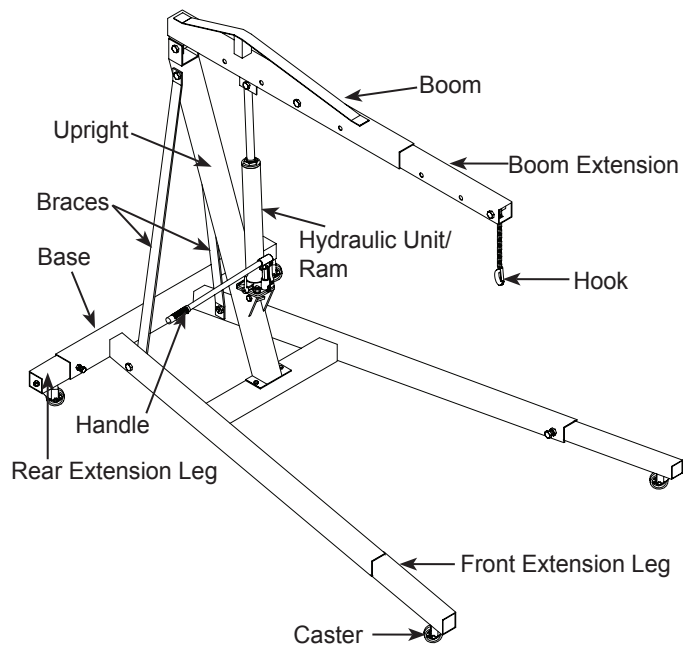

Figure 2 - Model 44020 Nomenclature
1. Make sure all parts are present (refer Fig. 2 & 4). If any parts are missing or damage, contact customer service.
2. Attach swivel casters (15) to rear extension legs (24) with bolts, washers & nuts (27, 23 & 22).
3. Slide front extension legs (14) and rear extension legs (24) into base (11), secure with bolts (13) into base, tighten bolts.